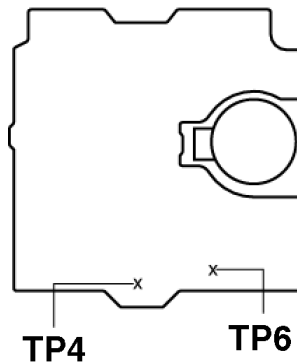
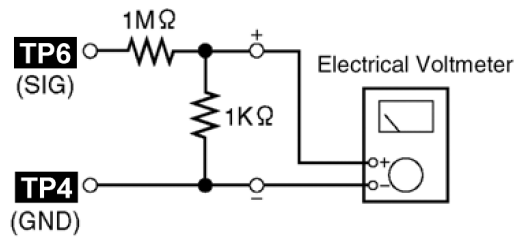

Fig. 9
Fig. 12
1. Connect an electrical voltmeter. (Fig 12) (Fig 9 for location of test points)